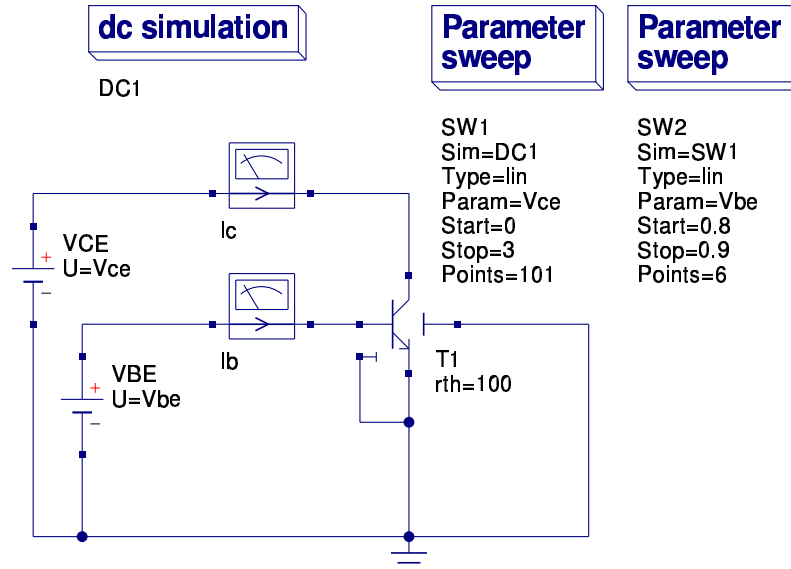

Figure 1.6: output characteristics schematic for HICUM/L2 v2.11 model
**DC simulation.** In fig. 1.6 the schematic for the output characteristics of the HICUM model is shown. The 2-dimensional sweep describes the function